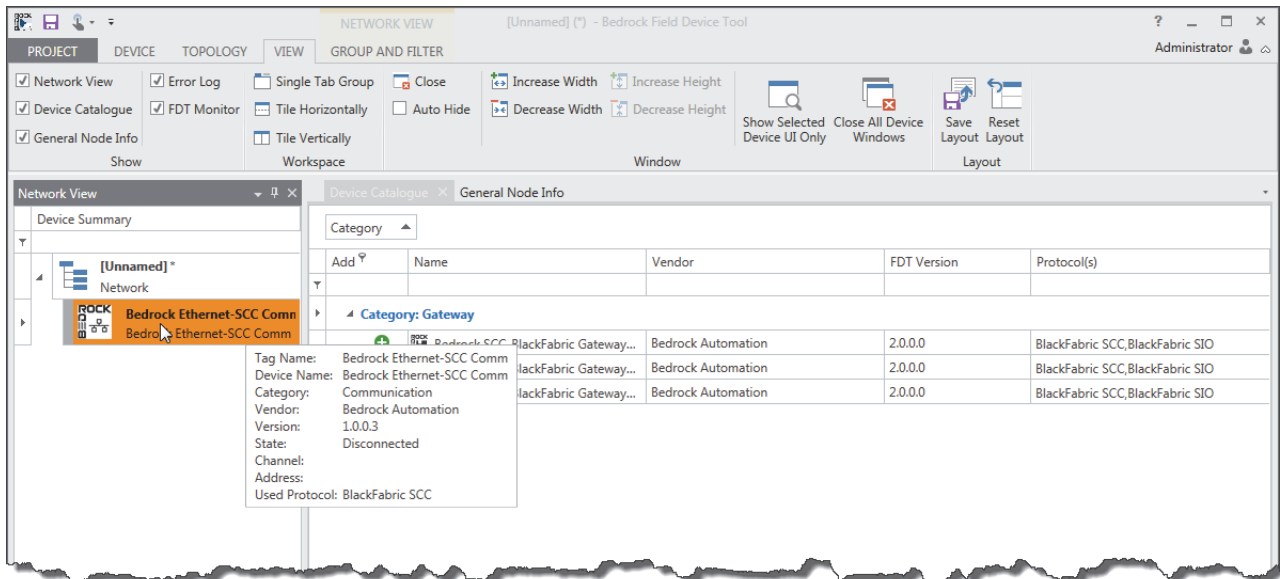

Figure 11-3 Select Network Adapter
4. Double-click the communication DTM that was just added to the Network View as shown in Figure 11-3.